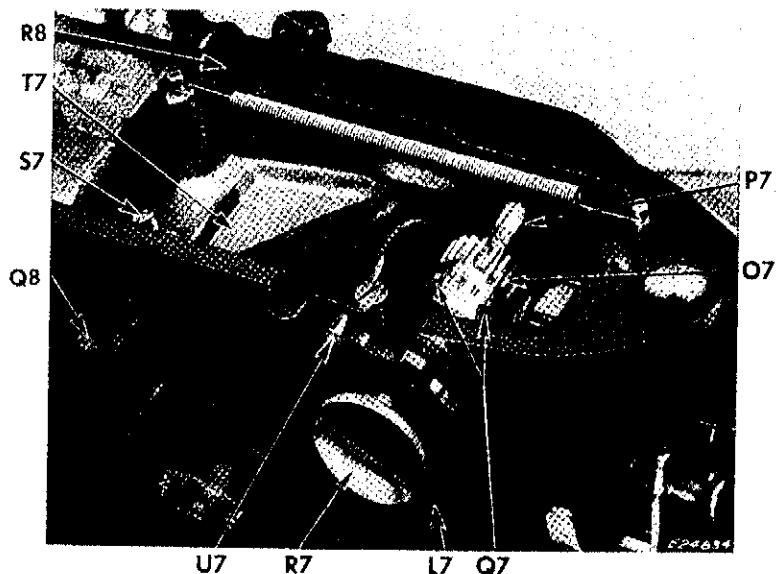

Fig. 73. Adjusting Arm Cross Shaft and FASHION Disc Stud
Turn FASHION disc **L7**, Fig. 73 counter-clockwise as far as possible and apply pressure toward needle bar on collar **M7**.
To remove end play or binding in cross shaft **P7**, loosen two screws at **Q7**, Fig. 73.
To adjust the relationship of the FASHION disc follower frame stud **U7**, Fig. 73 to the FASHION disc, loosen screw **S7** on collar.
2. Remove spring shown in **Fig. 73**.
7. Move frame **T7**, **Fig. 73** to front or rear of machine until stud **U7** is flush with outside edge of FASHION disc **L7**. Securely tighten screw **S7** when frame **T7** pivots freely on hinge pin **Q8**.
8. Replace spring shown in **Fig. 73**.